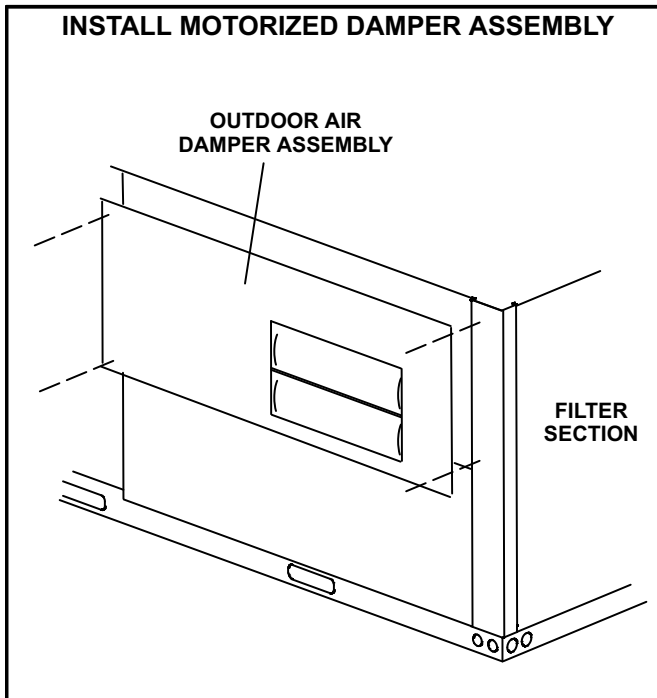

FIGURE 5
- 6- Install damper assembly into top rear access opening. See figure 5. Secure with retained screws.